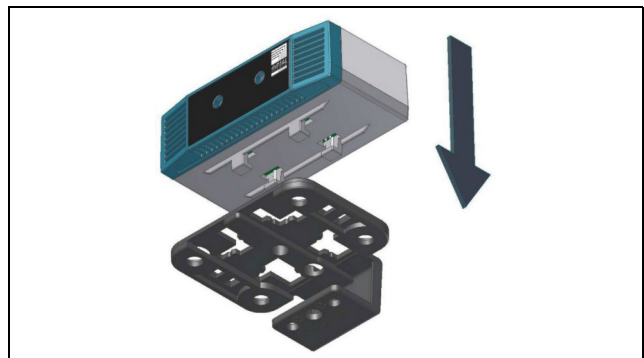
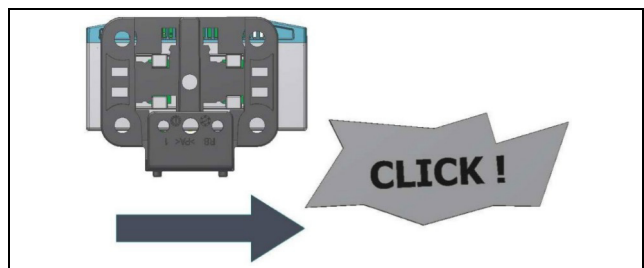

Fig. 2: Attaching the sensor to the bracket
Fig. 3: Latching the sensor into place on the bracket
- Then place the CAN bus access on the bracket (fig. 2) and latch it in place (fig. 3).